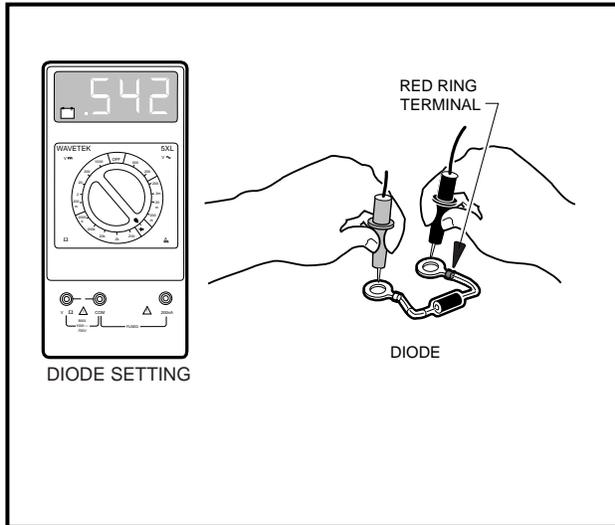

Figure 11-15 Test Diode
3. Using a multimeter set for diode, check for continuity between both diode terminals. Reverse the tester leads and again check for continuity. A diode is designed to conduct current in one direction only. If a diode shows continuity in both directions or does not show continuity in either direction, replace the diode assembly (**Figure 11-15, Page 11-15**).